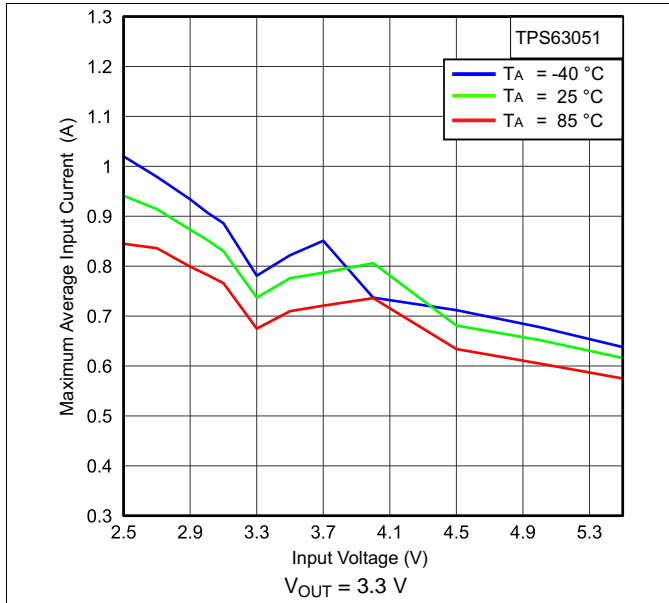
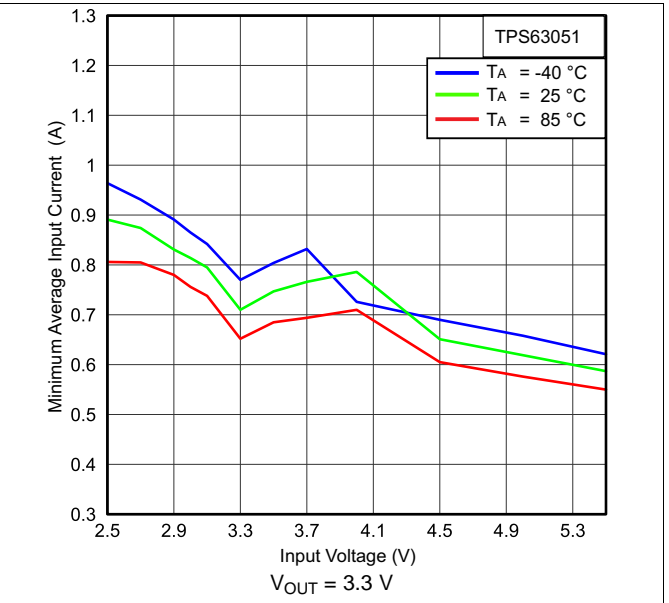

Figure 1. Maximum Average Input Current vs Input Voltage
Figure 2. Minimum Average Input Current vs Input Voltage
(1) For minimum and maximum output current in a specific working point see Figure 1 and Figure 2; and Equation 1 through Equation 4.
(2) Conditions:  $f = 2.5\text{ MHz}$ ,  $L = 1.5\ \mu\text{H}$ ,  $C_{OUT} = 10\ \mu\text{F}$
The TPS6305x devices have an internal user programmable current limit that monitors the input current during start-up. This prevents high inrush current protecting the device and the application. During start-up the input current does not exceed the current limit that is set by  $I_{LIM0}$  pin and  $I_{LIM1}$  pin. Depending on the logic level applied at these two pins, switching between four different current limit-levels is possible. The variation of those values over input voltage and temperature is shown in Figure 1 through Figure 2. Adjusting the soft-start time further using the soft-start capacitor is possible.
Given the curves provided in Figure 1 through Figure 2, calculating the output current in the different condition in boost mode is possible using Equation 1 and Equation 2 and in buck mode using Equation 3 and Equation 4.
- $I_{IN}$  = Minimum average input current (Figure 2 to Figure 2)